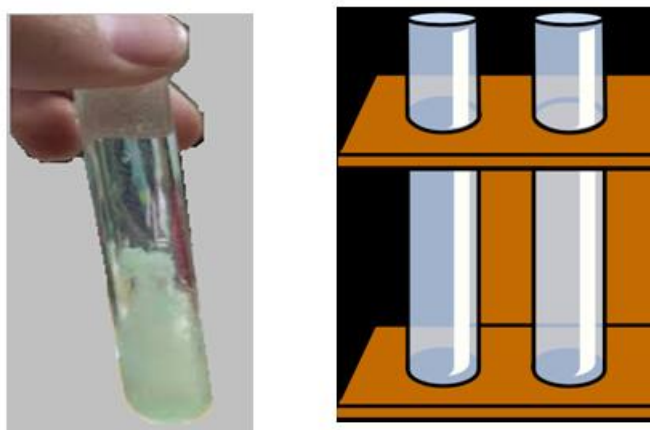

Figure 11: Dissolving soap in water
2. Shake each of the test tubes by closing their mouth with your thumb turn by turn as shown in Figure 11.